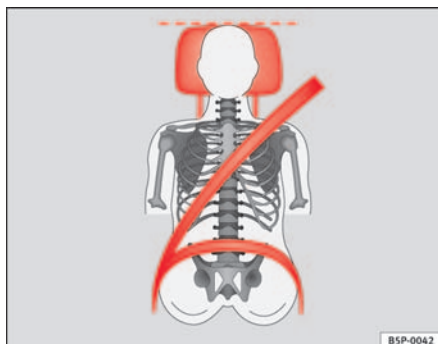
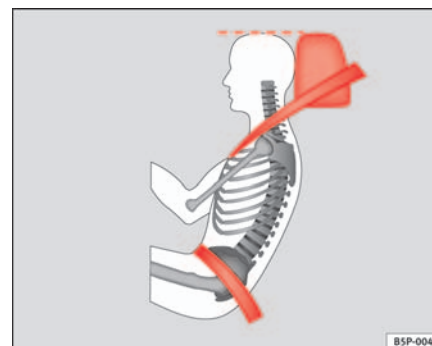

Fig. 69 Viewed from in front: Properly adjusted head restraints and proper belt adjustment
Fig. 70 Viewed from side: Properly adjusted head restraints and proper belt adjustment
- Adjust the head restraint so that its upper edge is at the same level as the top of your head, or as close as possible to the same level as the top of your head and, as a very minimum at eye level ⇒ fig. 69 and ⇒ fig. 70.